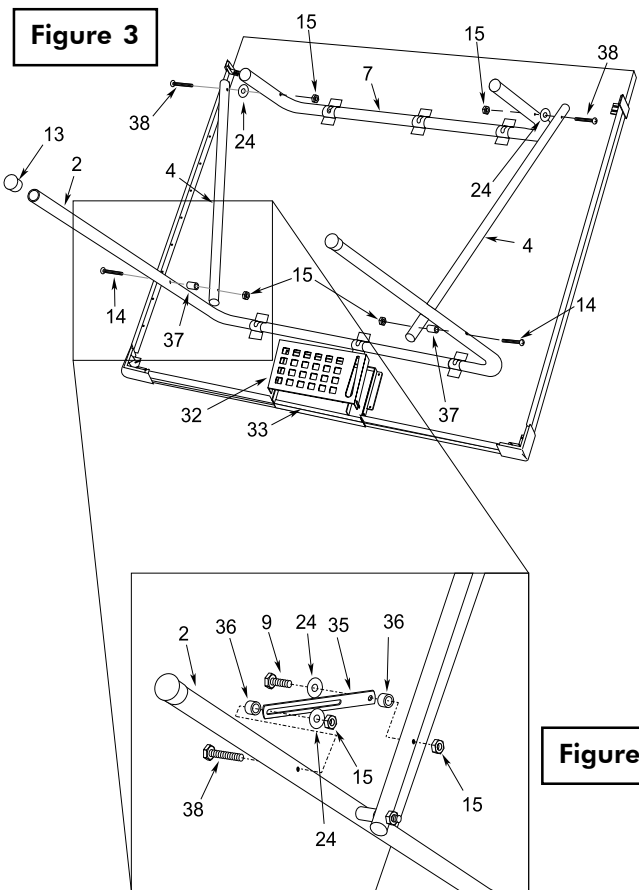

Figure 4
14. On one side of the table attach slotted end of safety strap #35 to **INSIDE** of U-Leg #2 using one bolt #38, one spacer #36, one washer #24, and one locknut #15. Tighten hardware until snug but do not overtighten. Tubes must pivot freely. See Figure 4.